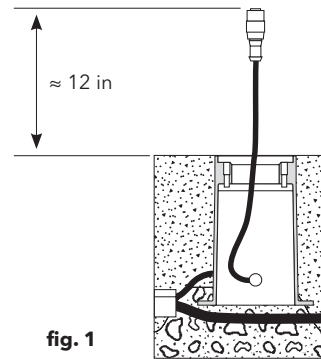

fig. 1
- 1) In landscaped areas (soil with gravel base), **fig. 1**